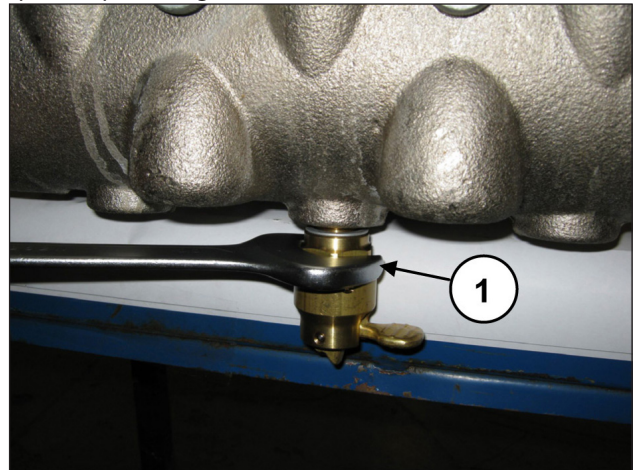

Fig. 103
Unscrew the valve opening device by means of a 30 mm spanner (pos. ①, Fig. 103).